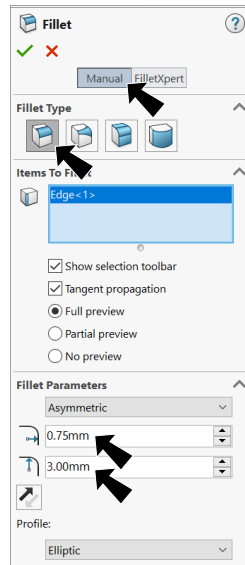

Fig. 23
Step 2. In the Fillet Property Manager, select **Manual**, **Fig. 23** under Fillet Type